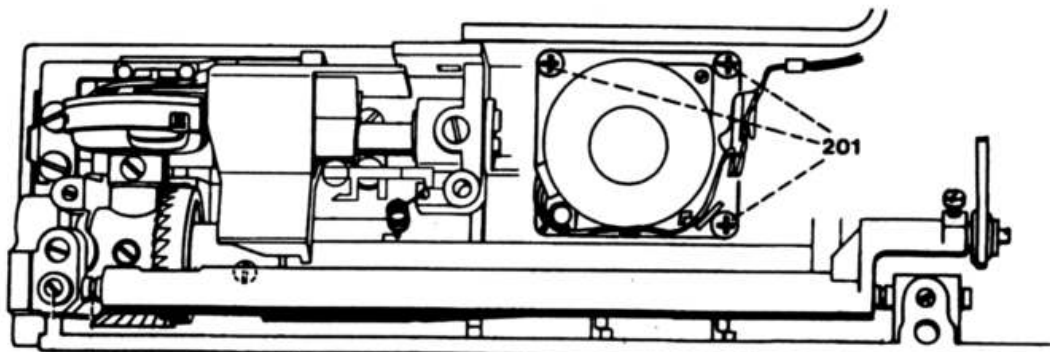

Fig. 38b
- Unscrew the three Philips screws 201 (fig. 38b).
- Insert and lightly tighten the three Philips screws 201 (fig. 38b).